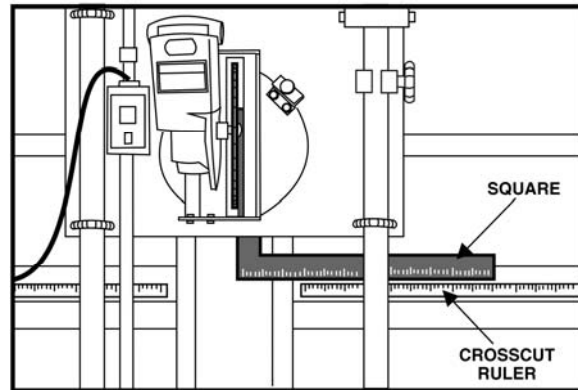

Figure 16
3. Using a square that measures at least 14" on one side, line up one edge of the square with the tips of the saw blade, and the other edge with the crosscut ruler. See Figure 16.